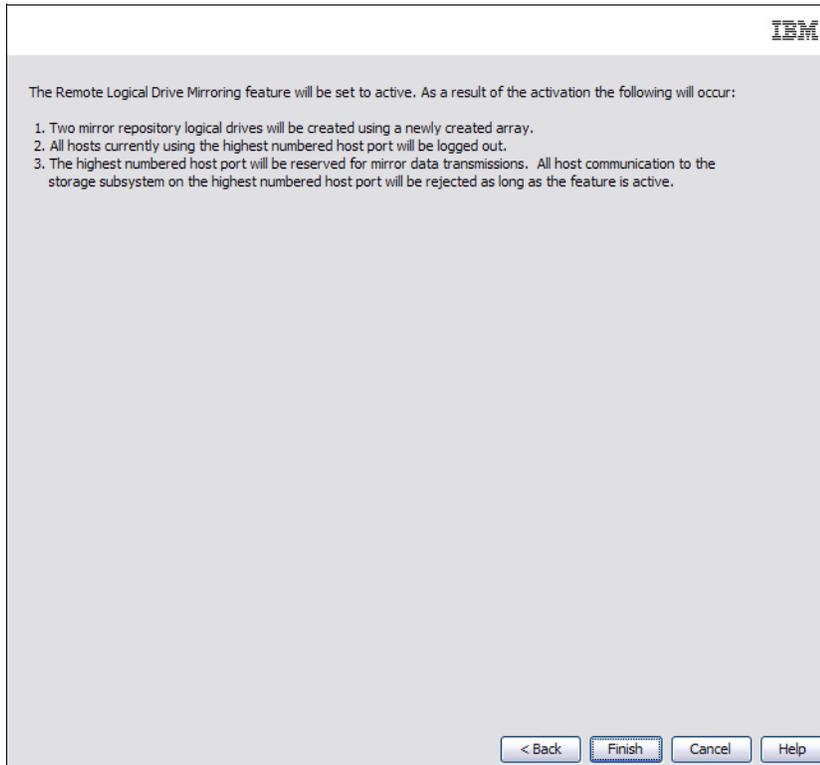

Figure 5-12 Activate Remote Mirroring wizard: Preview
3. After choosing where to create the mirror repository logical drives, the Preview window (Figure 5-12) opens.